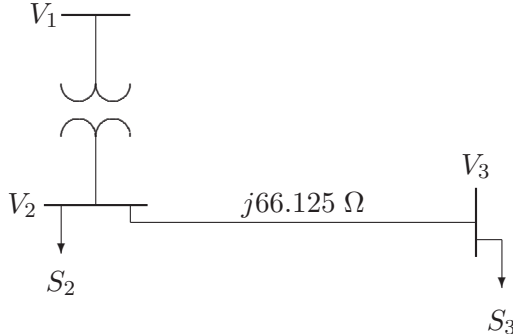

FIGURE 33
3.17. The one-line diagram of a three-phase power system is as shown in Figure 33. The transformer reactance is 20 percent on a base of 100-MVA, 23/115-kV and the line impedance is $Z = j66.125 \Omega$. The load at bus 2 is $S_2 = 184.8 \text{ MW} + j6.6 \text{ Mvar}$, and at bus 3 is $S_3 = 0 \text{ MW} + j20 \text{ Mvar}$. It is required to hold the voltage at bus 3 at $115 \angle 0^\circ \text{ kV}$. Working in per unit, determine the voltage at buses 2 and 1.